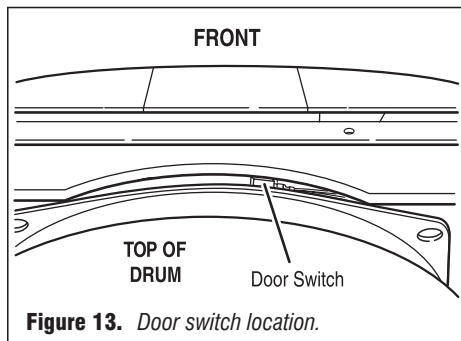

Figure 13. Door switch location.
2. Check that the wires between the door switch and machine control electronics are connected. See figure 13 for switch location, and see Accessing & Removing the Electronic Assemblies, below right.